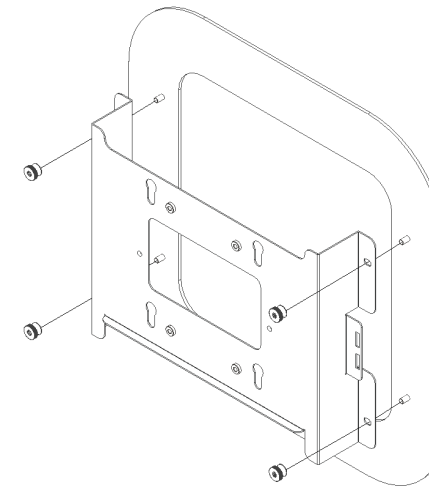

Figure 4 - Remove Mounting Plate
Step 4 – The torsion spring that is used to secure the trim assembly to the tile bridge is shipped separately (to prevent damage) and must be installed prior to the first use. To install torsion springs, first detach the mounting plate from the trim face by removing the two thumb nuts (Figure 4).